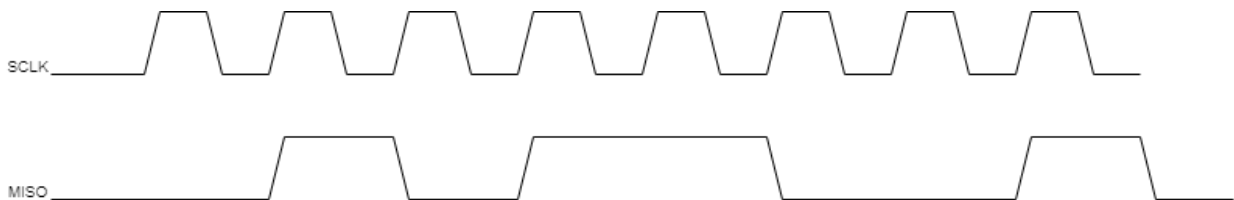

Figure 2: Timing diagram.
- [2 pts.] Consider the clock and data signals in Figure 2. Which clock edge should the data be sampled on?